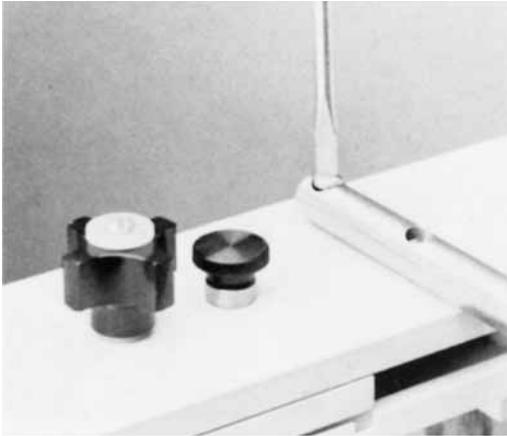

Figure 13
4. Remove both travel rods from the support bar by removing all four pan head screws (Figure 13)